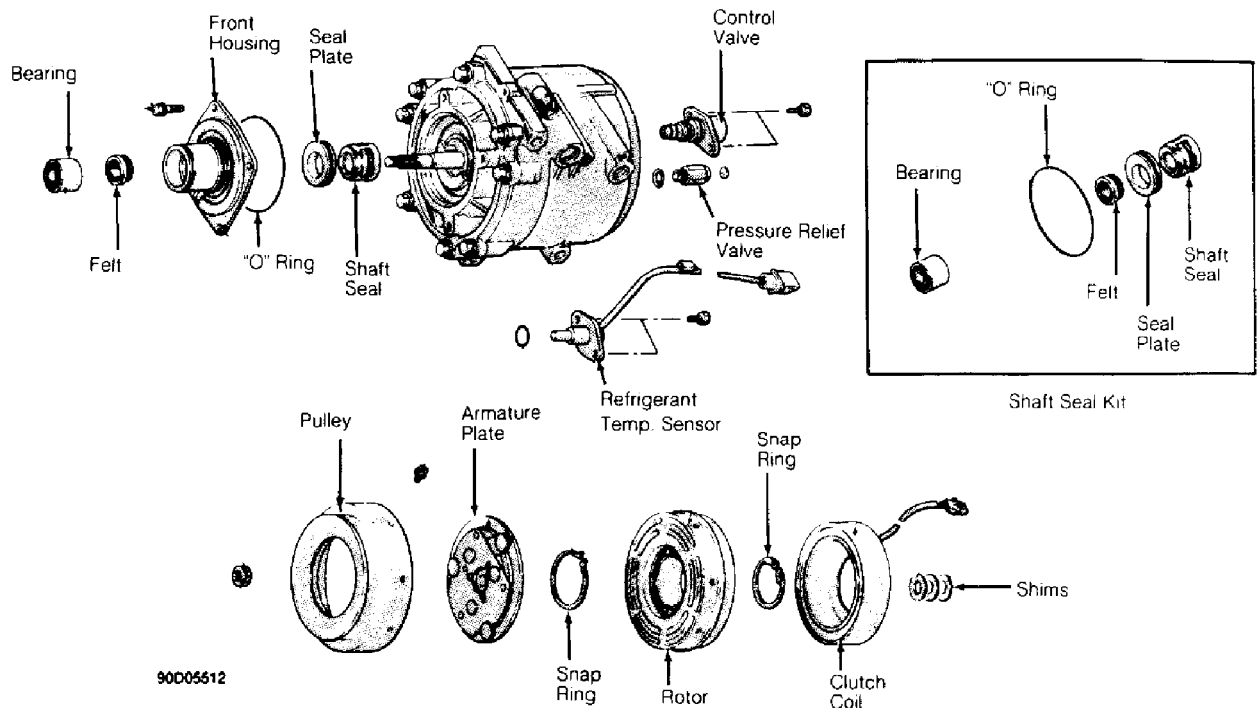

Fig. 17: Sanden Scroll Compressor
2) Remove armature plate. See Fig. 17. Remove snap ring with internal snap ring pliers. Remove clutch hub. Remove snap ring and clutch coil.